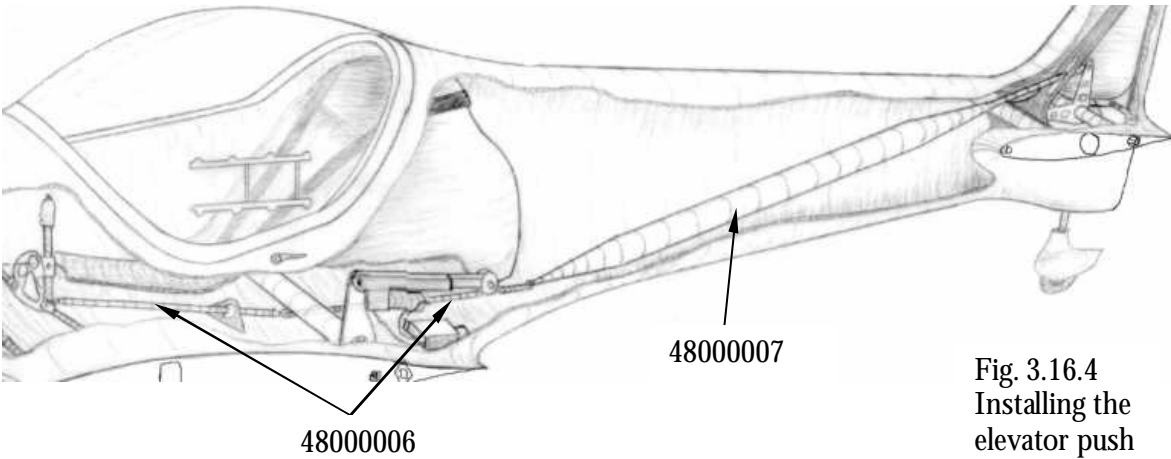

Fig. 3.16.4
2. Install the elevator push rods and the connections in the fuselage and the safety cell as shown in figures 3.16.4, 3.16.5 (3.19.1) and 3.16.6.